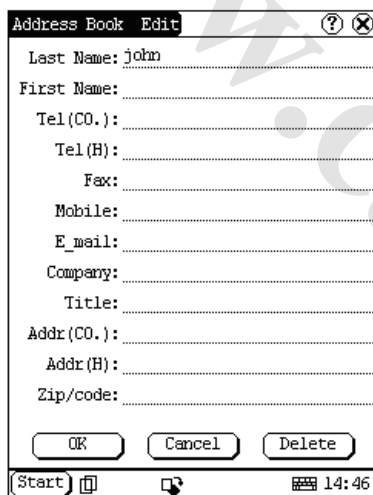

Figure 4-24
- 2) Then the information about the person can be edited in the opened Address Edit interface. See Figure 4-24.